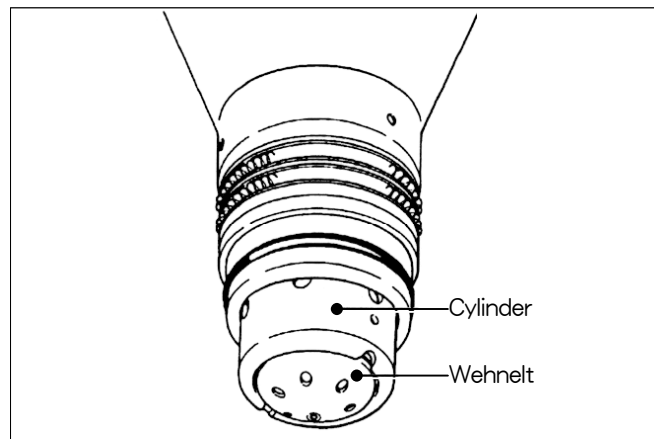

Fig. 6.8 Cylinder and Wehnelt
2. Put on clean thin gloves of cotton or nylon, and detach the cylinder by turning it counterclockwise (Fig. 6.8).